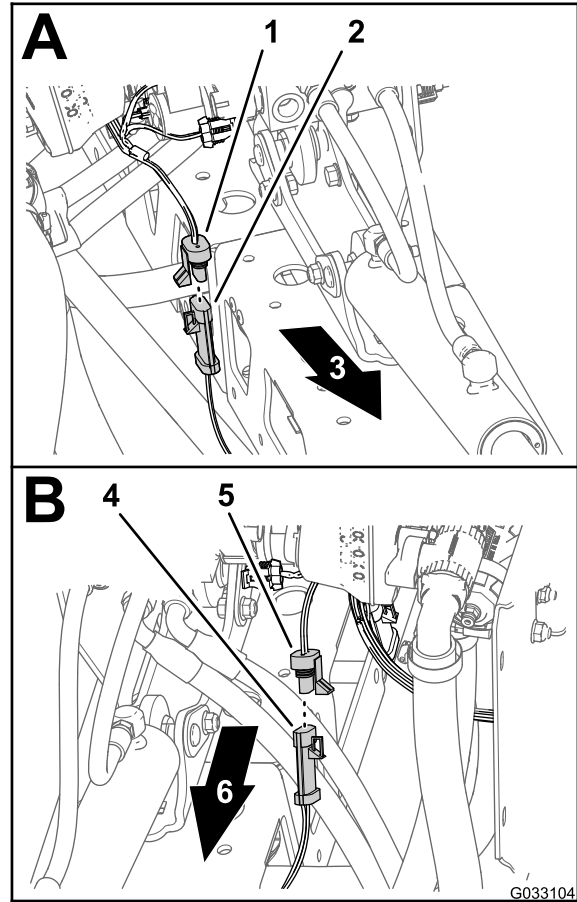

Figure 33
1. Disconnect the 3-socket connector of the sonic boom wire harness from the 3-pin connector of the cable for the right ultra-sonic sensor (Figure 33).
2. Disconnect the 3-socket connector of the sonic boom wire harness from the 3-pin connector of the cable for the left ultra-sonic sensor (Figure 33).